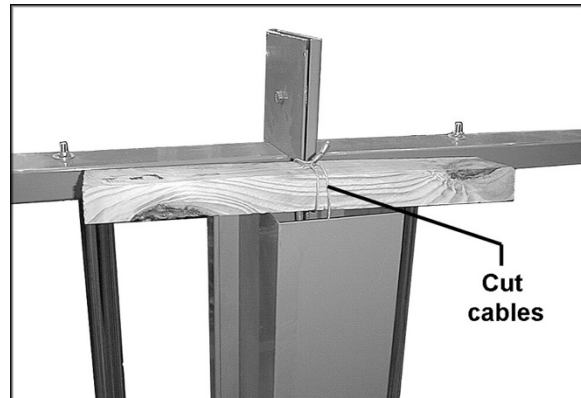

Figure 4
3. On top of the counterweight housing (back of panel saw frame), lift the wood block and cut the cables attached to the block (see Figure 4). **CAUTION: DO NOT cut the main cable that runs through the pulley.**